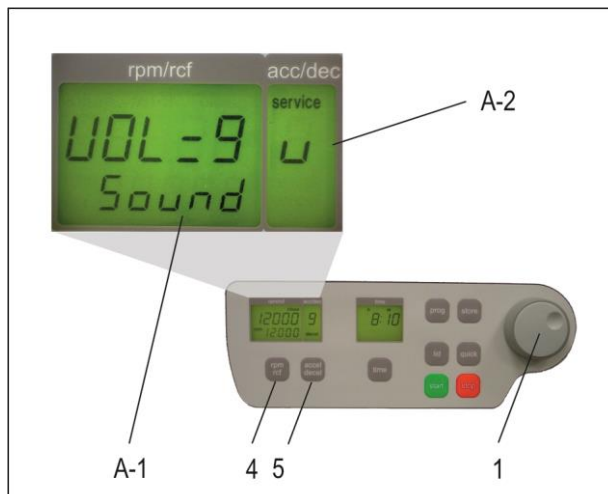

Figure8
Proceed as illustrated, under point 1.8.1, to enter this program mode, press the key "accel/decel" (5). In the display, "accel/decel" (A-2) flashes the word, "service". Select the letter, "u" with the adjustable knob (1). As a result, appearing in the display, "rpm/rcf" (A-1), are the words, "Vol=0-9/Sound". By pressing the key, "rpm/rcf" (4), the desired volume can be adjusted between 0 (low) and 9 (loud), with the adjustable knob (1), (see Figure8).